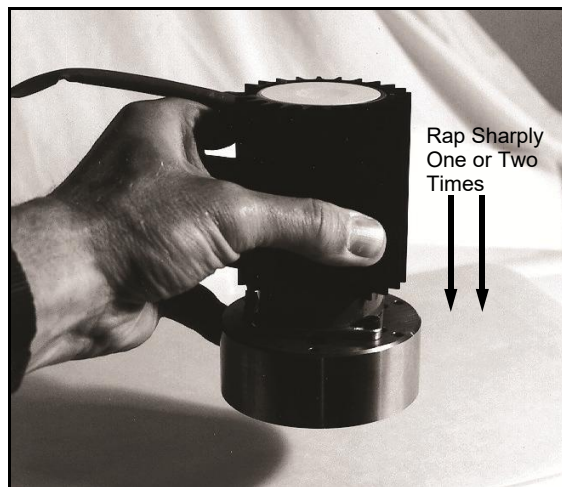

Figure 13-11 **Dislodging the Wave Generator Bearing**
5. Holding the motor assembly firmly in one hand with the open end of the motor adapter housing facing down, sharply rap the flat surface of the motor adapter housing on a thin piece of cardboard placed on a solid surface. See Figure 13-11. Only one or two sharp raps should be needed to dislodge the wave generator bearing, the flexspline, the motor shaft key, and the Lexan[®] washer. Any clean, slightly cushioning surface will work for this step, but wood is not recommended because small wood chips could get lodged in the ball bearings.